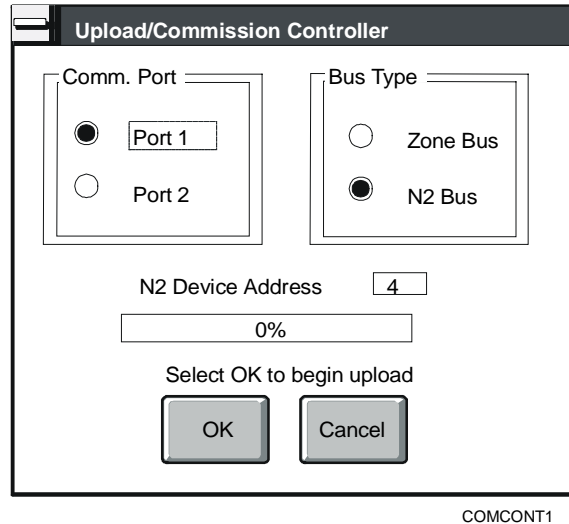

Figure 5-5: Commission Configuration in Controller Dialog Box
1. On the Commission menu, click Configuration in Controller. The Upload/Commission Controller dialog box appears requesting the communication parameters (Figure 5-5).